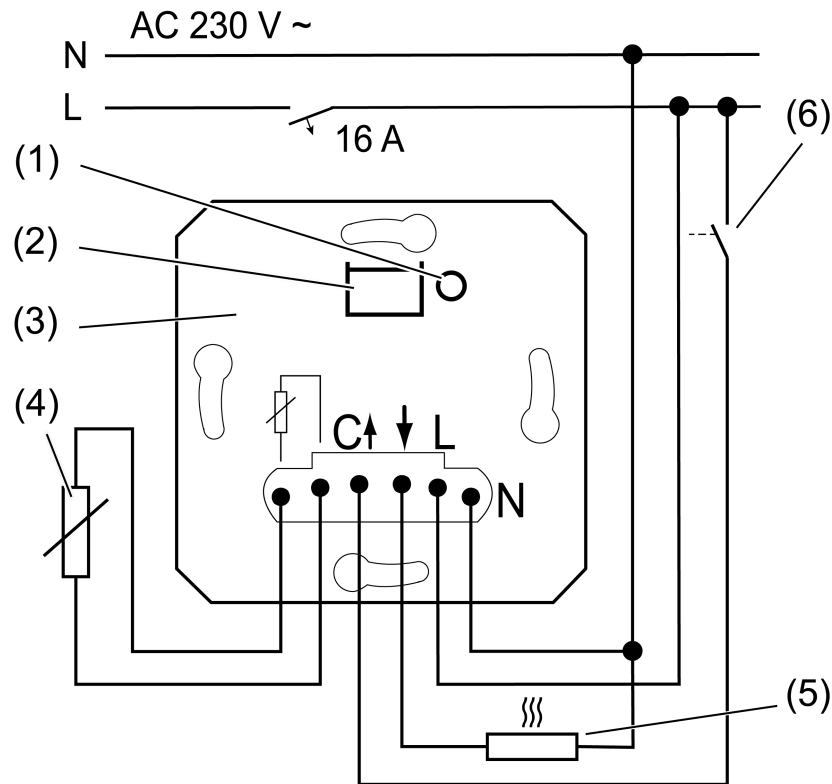

Figure 1: Connection example of the insert
- (1) Button **TEST**
- (2) Cover interface with LED
- (3) Insert
- (4) Remote sensor for external temperature measurement
- (5) Electric underfloor heating or electrothermal valve drive
- (6) Switching contact for switching to cooling mode (optional)
- Connect insert (3) according to the connection diagram (see figure 1).
- Optionally connecting external remote sensor (4) (accessory).
- i** By briefly pressing the button **TEST** (1), the load can be switched. LED (2) lights up when the load is switched on.